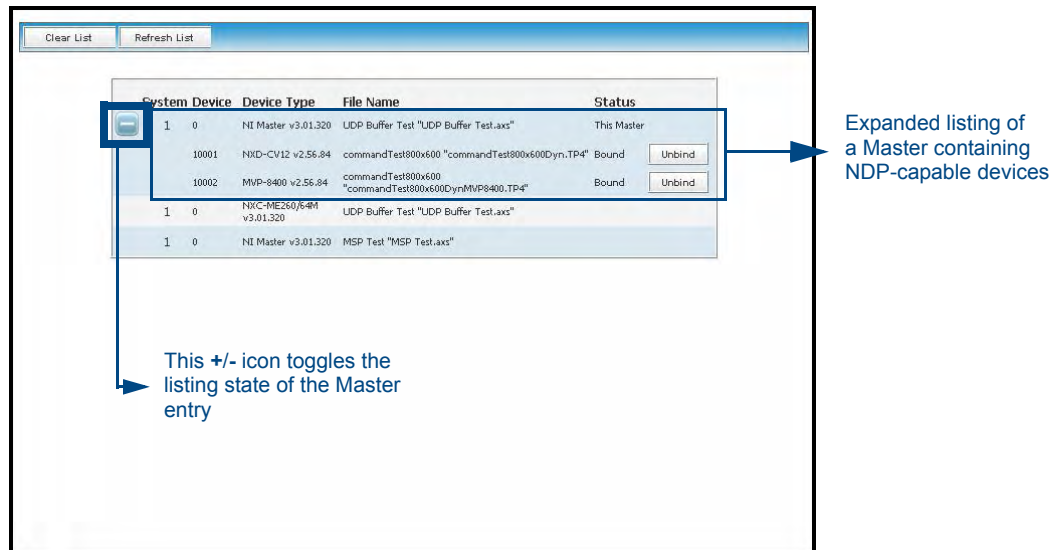

FIG. 60 Manage NetLinx Devices page - showing an expanded view
1. Click the "+" icon to expand the particular Master's listing and reveal those NDP-capable devices connected to it, as shown below in FIG. 60.